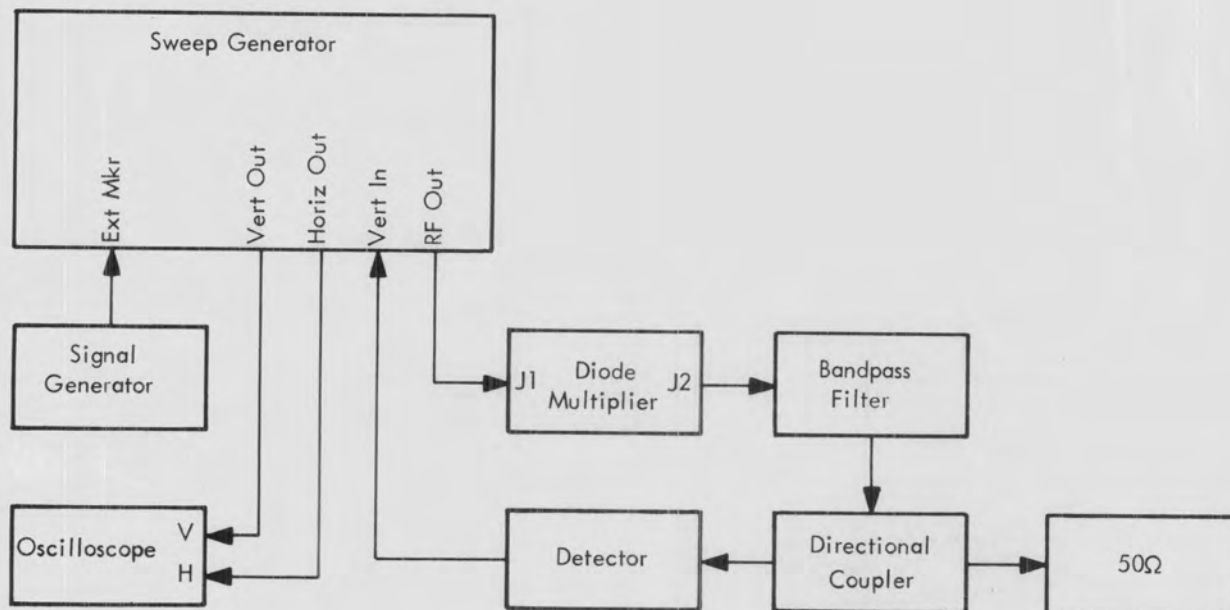

Figure 5-14. Bandwidth Adjustment, Diode Multiplier
- Connect test equipment as shown in figure 5-14. Set controls as follows: